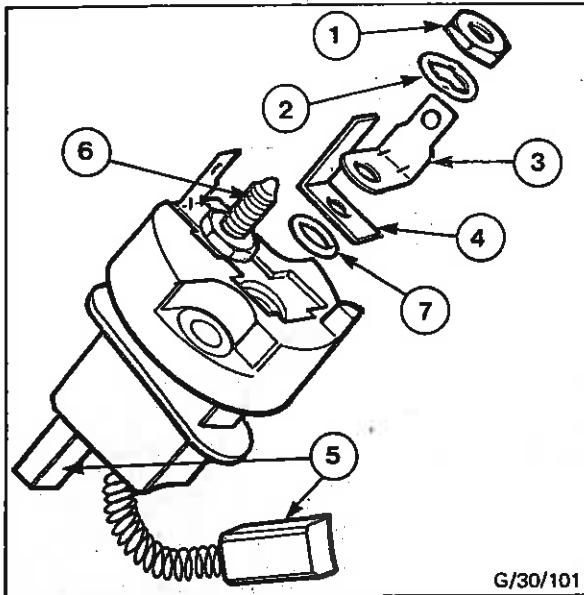

Fig. 62 - Dismantling Brush Box
4. Disconnect the lead (2) from terminal 'A' of brush box, remove the two retaining screws (3), complete with crinkle and plain washers and withdraw brush box (4) complete with brushes. Discard gasket.
5. Remove field terminal retaining nuts (1), crinkle washers (2), 'Lucar' blades (3) and insulator (4) from terminal posts. Withdraw brushes (5) and field terminal posts (6) from brushbox. Discard sealing rings (7) - see Fig. 62 (Brushboxes on AC5B alternators cannot be dismantled).